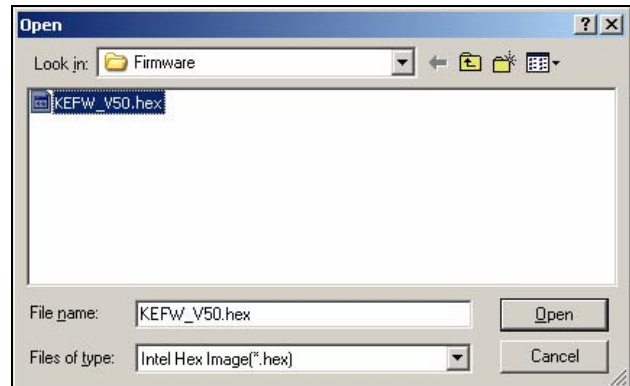

Figure 175
3. Type the name of the firmware file or select the Browse button to locate the file. See Figure 175.